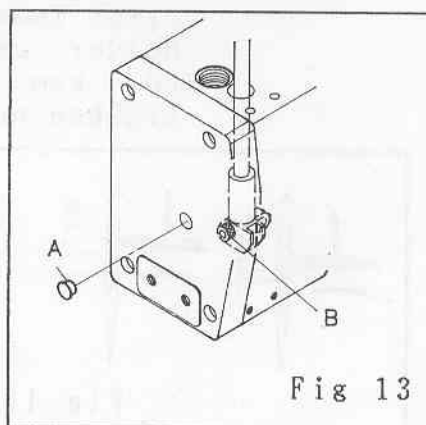

Fig 13
2. The position of Needle Bar can be adjusted by (1) removing rubber cap (A) and loosening nut (B), (2) moving Needle Bar up and down, to proper position and (3) tightening screw (B), and insert in Cap (A). (Fig. 13)